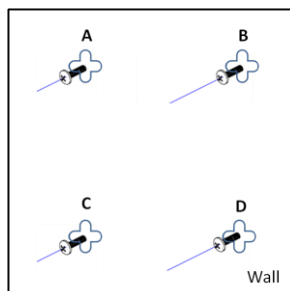

Figure 28. Drill four holes and install four screws for hanging purposes
Step2. Drill Hole A, B, C & D and install screws for hanging purposes as shown in Figure 28. (Hole A & B are enough for wall mounting installation. However, we suggest that four screws are used for extra stability while hanging on the wall.)